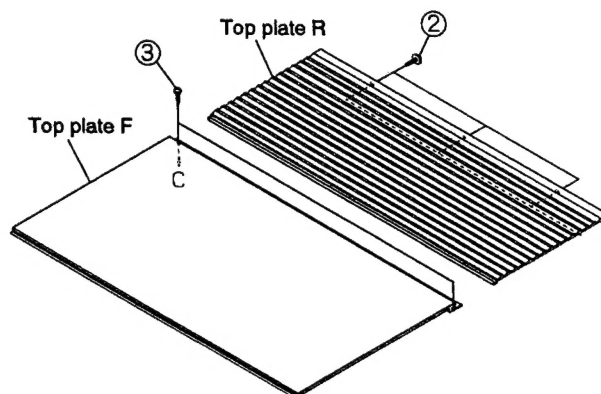

Fig. 2
1. Remove top plate R (fixed by a screw ②), then top plate F (fixed by a screw ③). (Fig. 2)